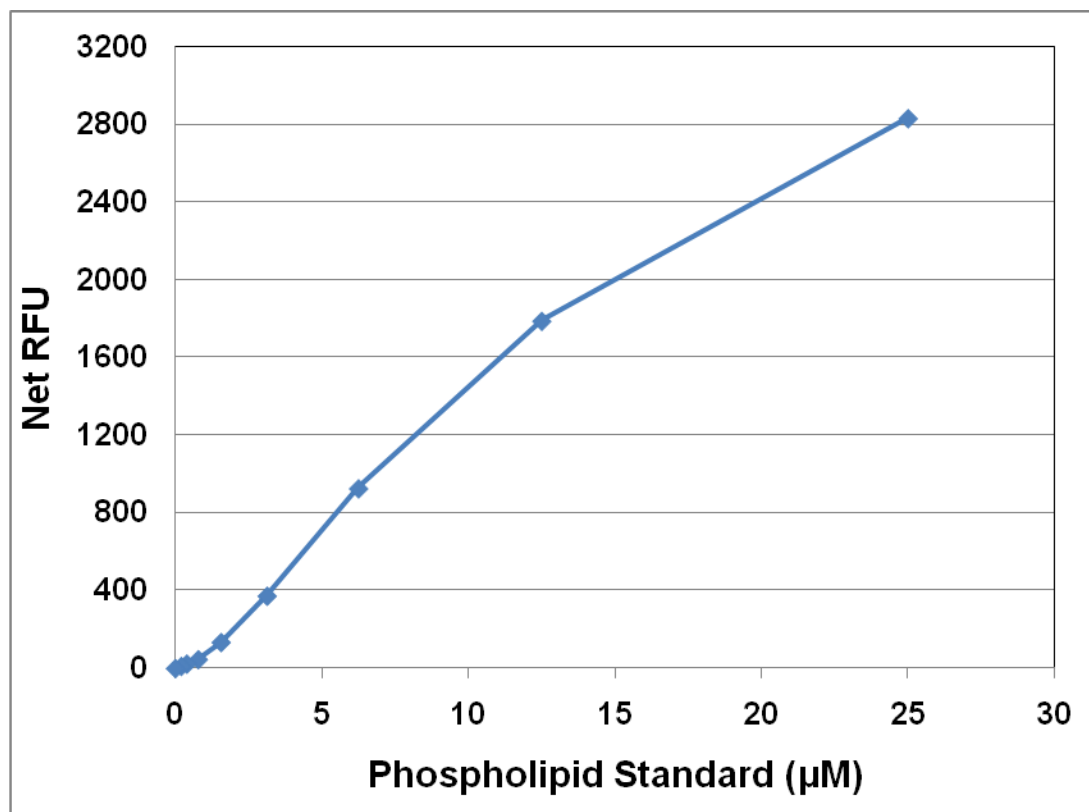

Figure 2: Phospholipid Standard Curve.
2. Plot the corrected fluorescence for the standards against the final concentration of the phospholipid standards from Table 2 to determine the best curve. See Figure 2 for an example standard curve.